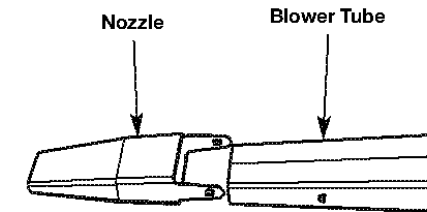

Fig. 2
2. Slide the nozzle over the end of the blower tube until the latches on both sides of the blower tube and nozzle lock into place (Fig. 2).